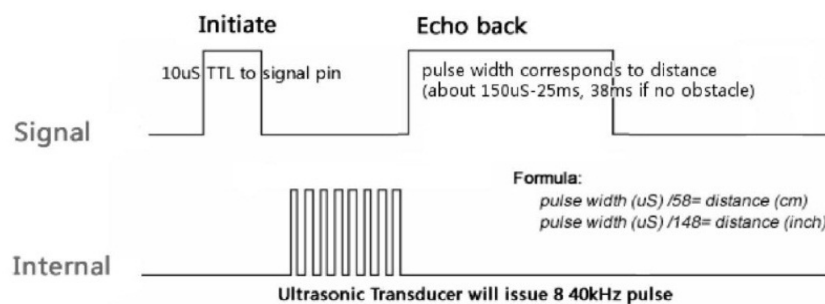

Figure 7.2: Principle of measuring distance on the HC-SR04 ultrasonic distance sensor.
- Next, in the main loop, let's add a code fragment to measure the distance from the ultrasonic distance sensor. According to the documentation for the HC-SR04 sensor (see Fig. 7.2), first set the low signal on the trigger for a short time, e.g. $2\mu s$. Then set the high signal for $10\mu s$. To generate delays in microseconds, use the function: `utime.sleep_us()`. In the next step, set the low signal on the trigger.